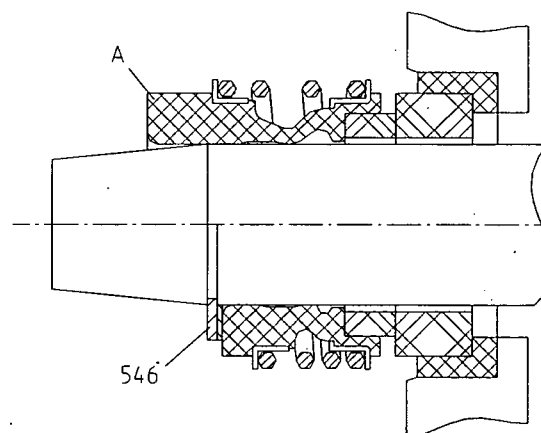

Fig. 19
d) Rubber-bellows seal, external spring - type "G" (Fig. 19)